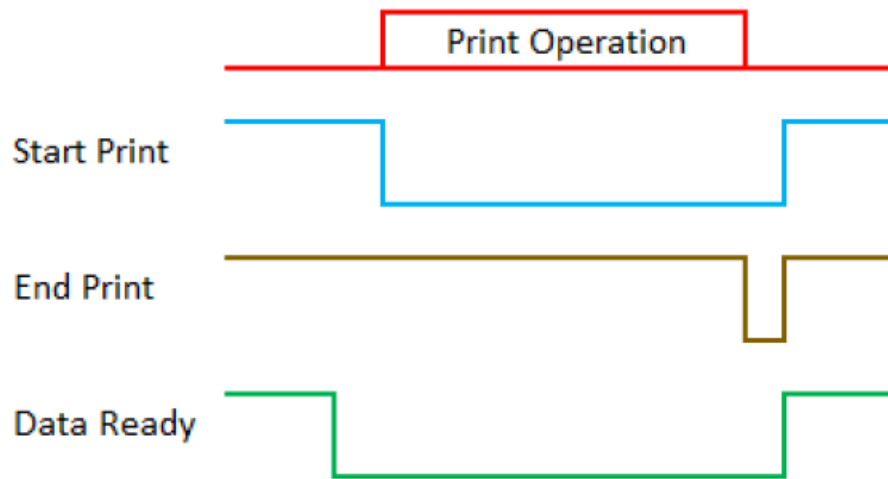

Figure 4
- The timing chart is shown in Figure 4.